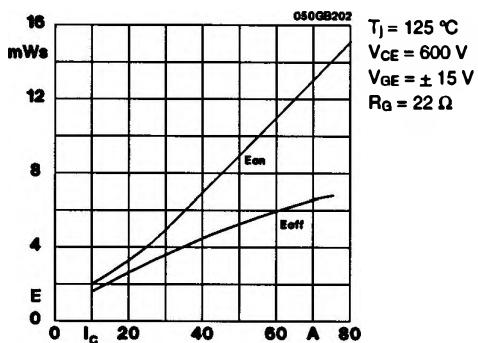

Fig. 2 Turn-on /-off energy = f (I_c)
5) See fig. 2 + 3; $R_{Goff} = 27 \Omega$